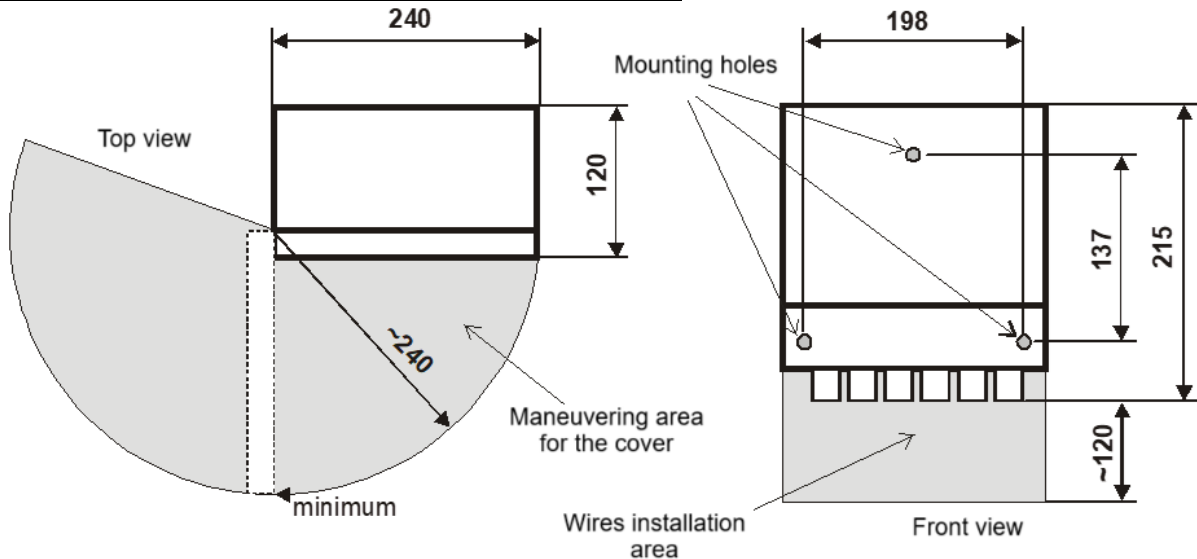

Fig. 3. Dimensions are given in [mm]. The drilling template for the MD mounting holes is printed on the cardboard packaging.
4.1.2. Hang the module on a previously prepared single hook (in the centre of the designated installation location); mark the positions of the other two mounting holes (installation position according to fig. 3). A drilling template can be found on the module's cardboard packaging.